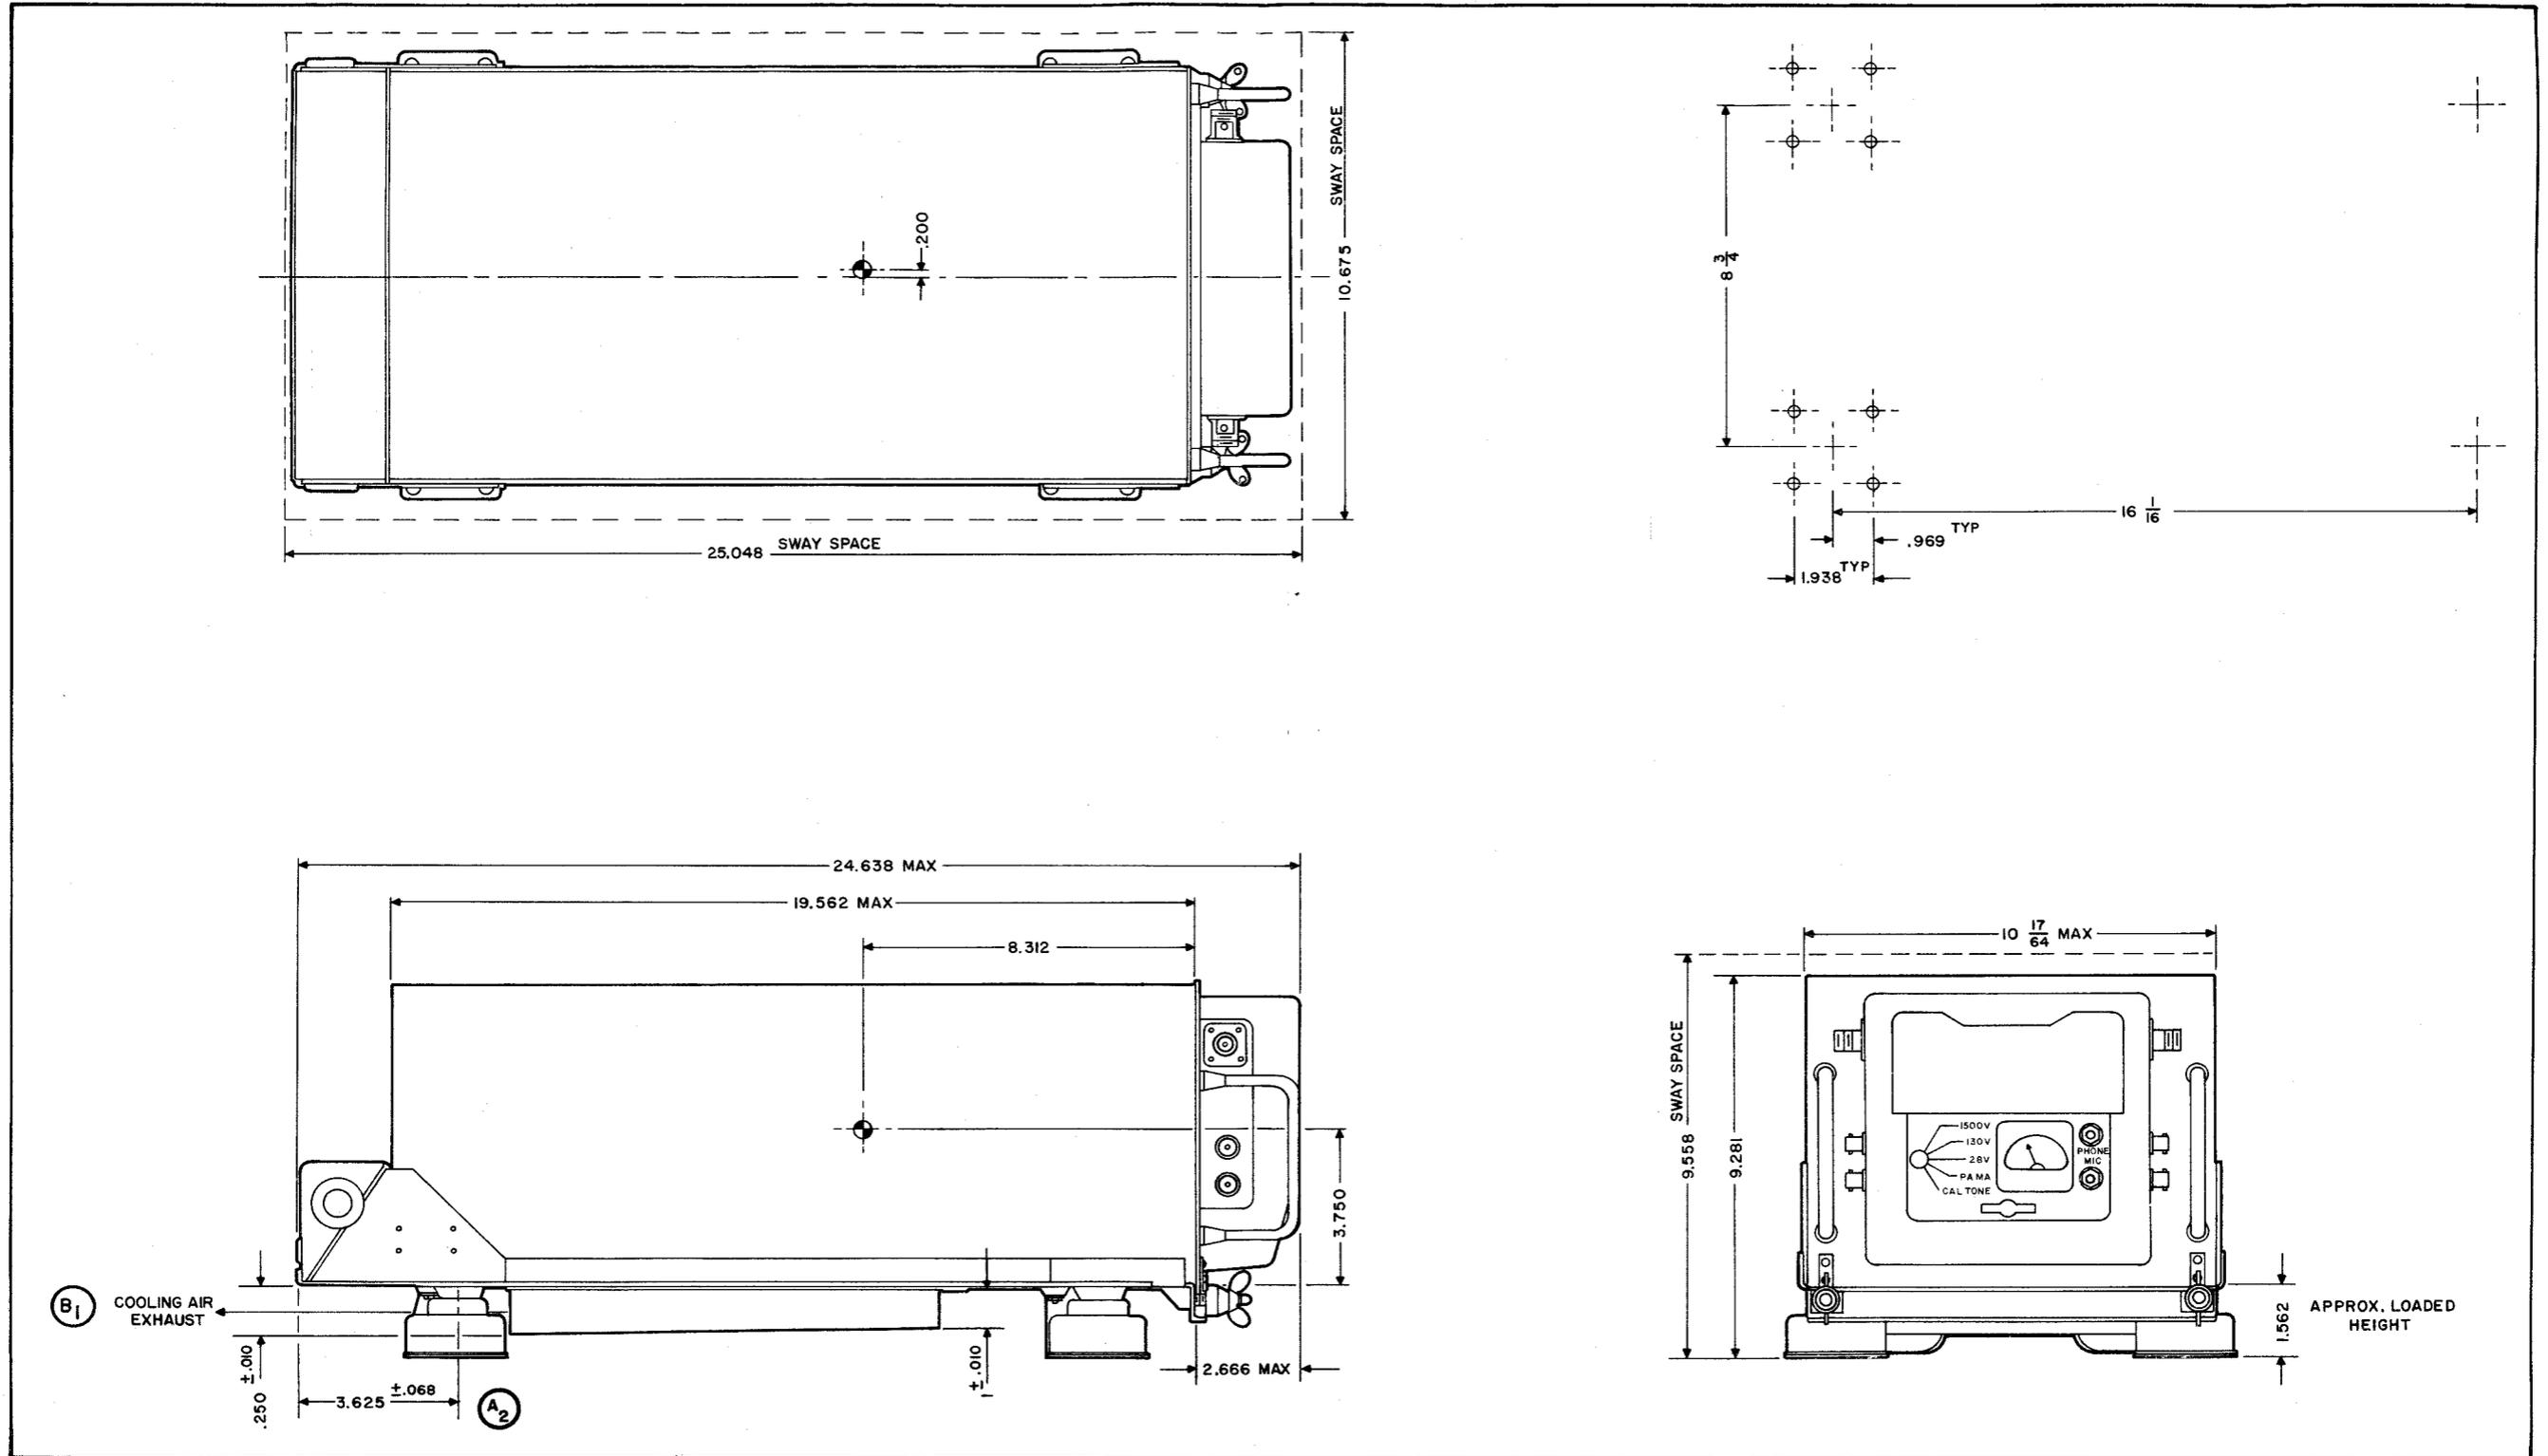

Figure 3-4. Outline and Mounting Dimensions for Radio Receiver-Transmitter RT-648/ARC-94 on Mounting MT-2641/ARC-94
- a. Select an accessible location for MT-2641/ARC-94 and RT-648/ARC-94. Refer to figure 3-4. Be sure to allow adequate sway space for RT-648/ARC-94. When selecting the location, take into consideration the cooling requirements specified in paragraph 3-12.
- b. After selecting the location, drill holes as shown in figure 3-4.